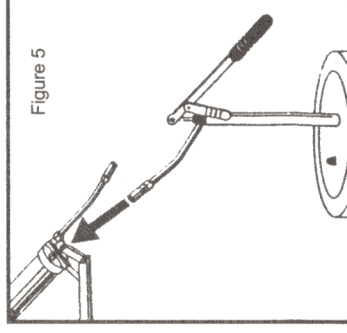

Figure 5
1. When using grease guns which are not supplied with a bulk-loading filler valve, remove the filler plug in the head and insert filler valve (NOT INCLUDED). Make sure the valve is compatible with the adapter on the pump. (Figure 5)